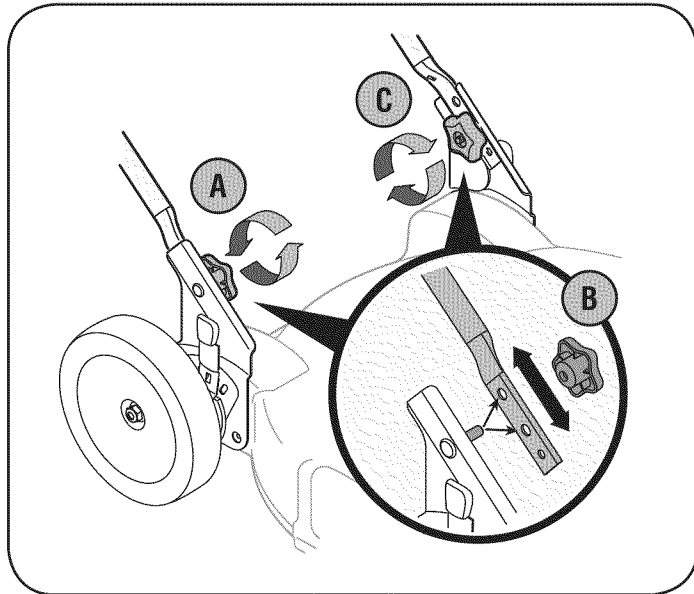

Figure 3
2. If satisfied with the height of the handle, tighten the star knobs at the ends of the lower handle shown in Figure 3. For convenience of operation, you may adjust the handle height as follows:
- A. Remove the star knobs shown in Figure 3 and remove the lower handle.